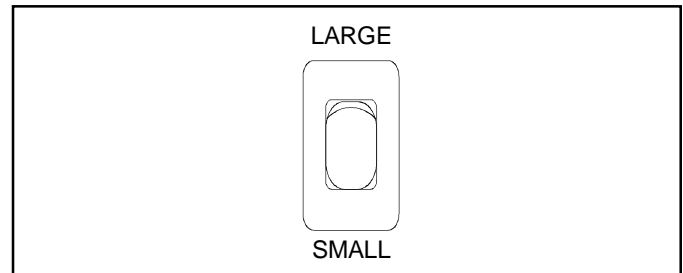

Figure 12
1. Depress *Element Size* switch downward. Dual Element switch is located in upper right corner of control panel. (Figure 12)